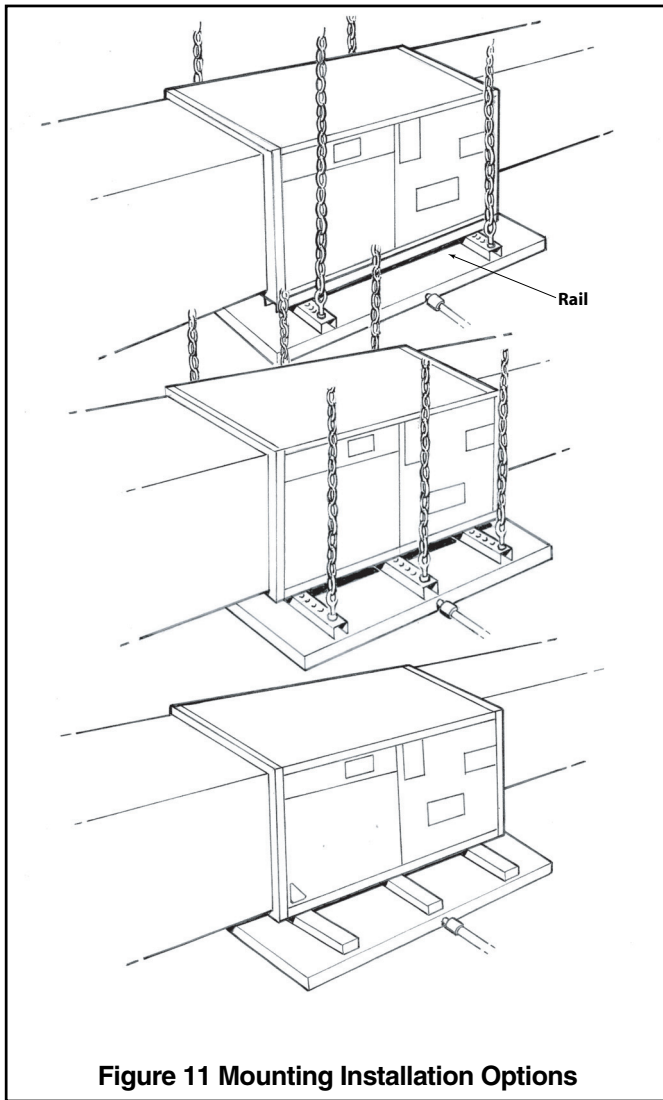

Figure 11 Mounting Installation Options
- d. If the unit is suspended, it must be supported from the bottom near both ends as well as the middle to prevent sagging. The service access must remain unobstructed. If the unit is supported along the length of the front and back with rails, the air handler only needs to be suspended at both ends. See Figure 11.
- c. If the unit is suspended, it must be supported from the bottom near both ends as well as the middle to prevent sagging. The service access must remain unobstructed. If the unit is supported along the length of the front and back, the air handler only needs to be suspended at both ends. See Figure 11.